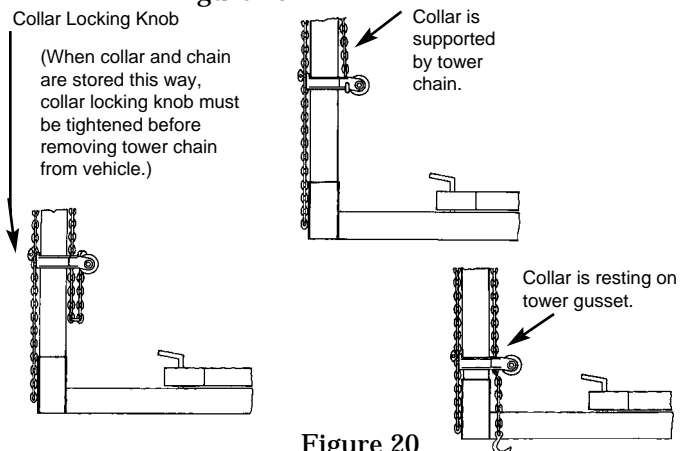

Figure 20
6. When tower is no longer needed, close tower valve, disengage tower chain hook, and store collar using one of the three methods shown in Figure 20.